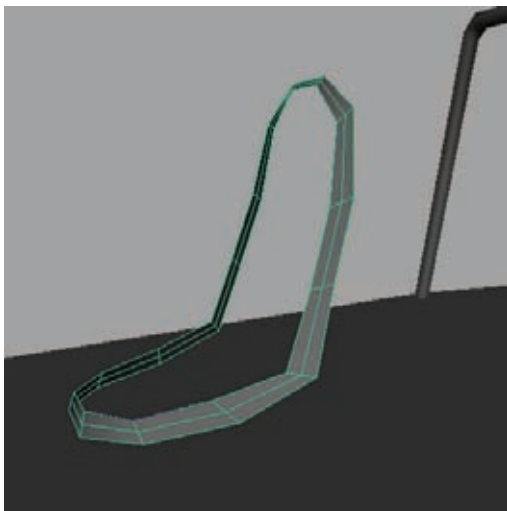

Figure 4.38
12. With both curves still selected, select Surfaces → Loft. As you can see, this time, the surface is much cleaner (Figure 4.38).